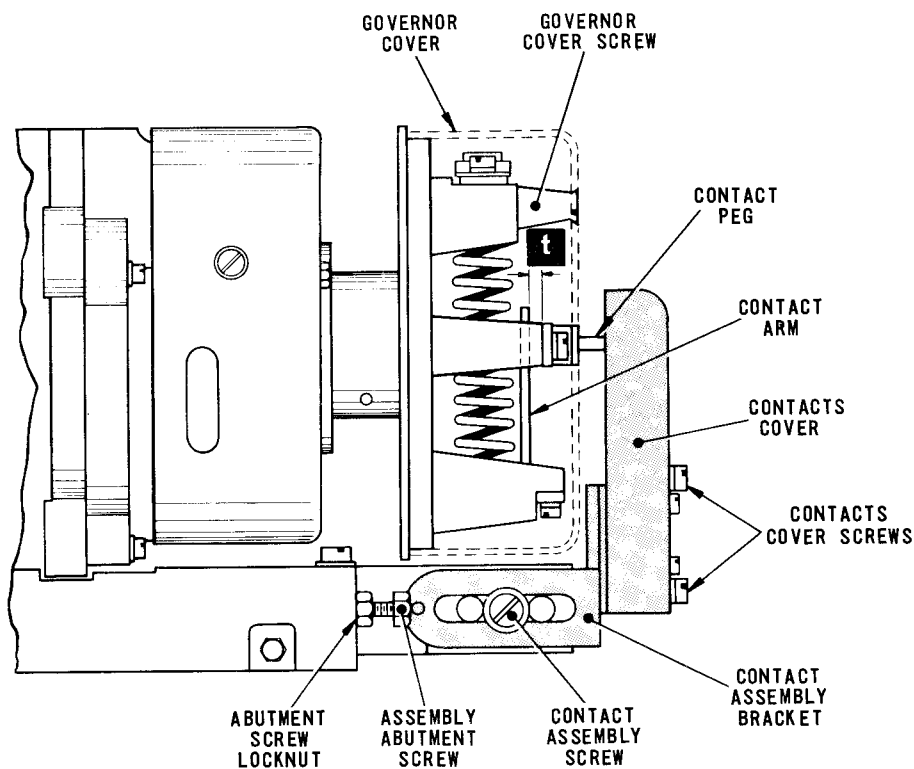

Fig. 4.13 GOVERNOR CONTACT ASSEMBLY
- 18.1 Remove the screws securing the contacts cover, Fig.4.13, and take off the cover. Push the contact peg and contact arm inwards towards the motor to remove any contact peg pressure from the contacts. Check that there is now a clearance of .025 in. between the contacts.
- 19.1 Remove the screw securing the governor contact assembly, Fig.4.13, and lift off the assembly, taking care not to lose the contact peg. Remove the screw securing the governor cover and take off the cover.